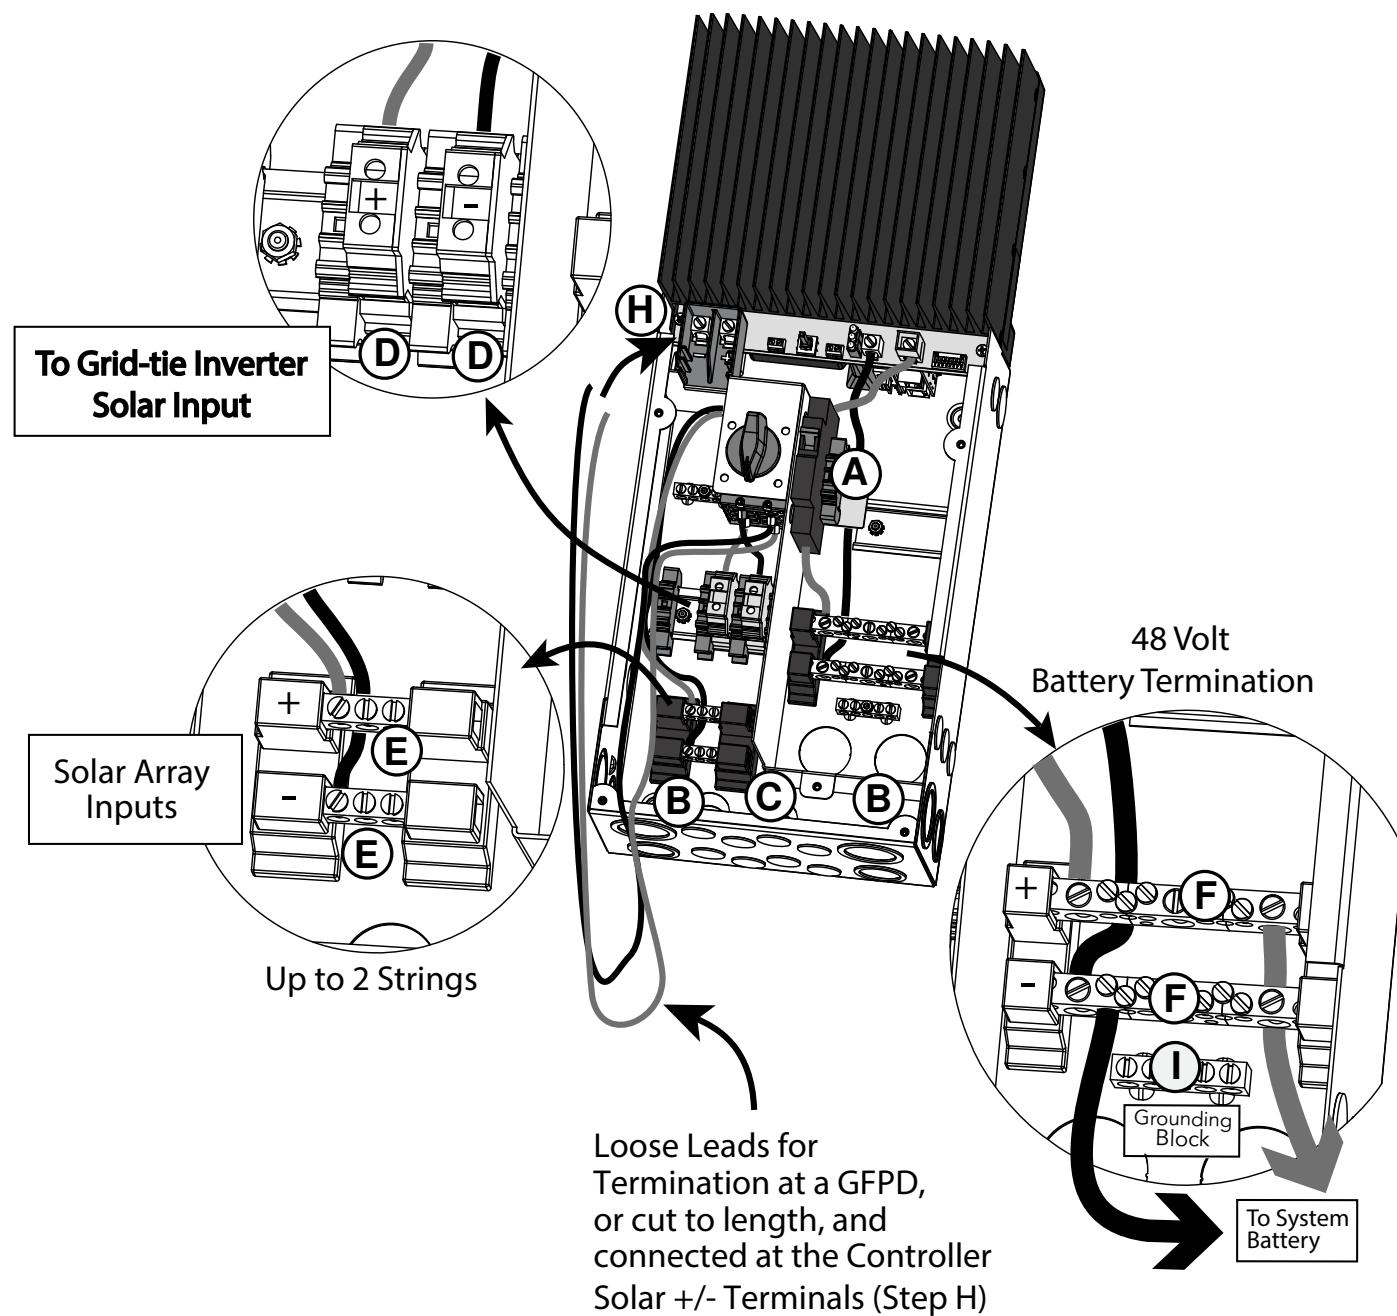

Figure 3-10. Power Connections - TR Box Only
**Using the following steps, connect the power conductors corresponding to the lettered references shown in Figures 3-10 and 3-11 on pages 30-31.**
- H. The TS-MPPT-600V-TR (option without GFPD) is shipped with unconnected transfer switch solar battery charging wires. As shown in Figure 3-10 on page 30, connect these (+) and (-) wires to either the controller's (+) and (-) solar terminal lugs, or route through a GFPD-600V, and then connect the GFPD return wires to the controller's (+) and (-) solar terminal lugs.